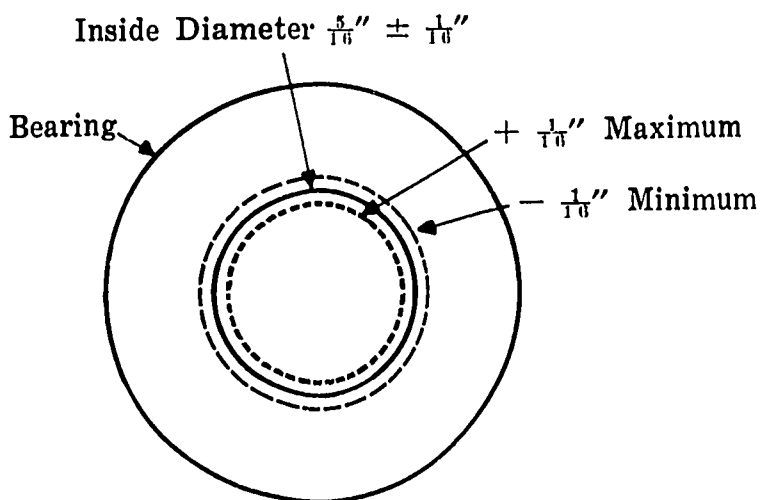

Fig. 10-3. Bearing, with Maximum and Minimum Tolerance Shown
5. These two limits on bearing size will establish the *tolerance* permitted for bearings. Study Fig. 10-3. Will the tolerances shown match the needs given in Question 4?